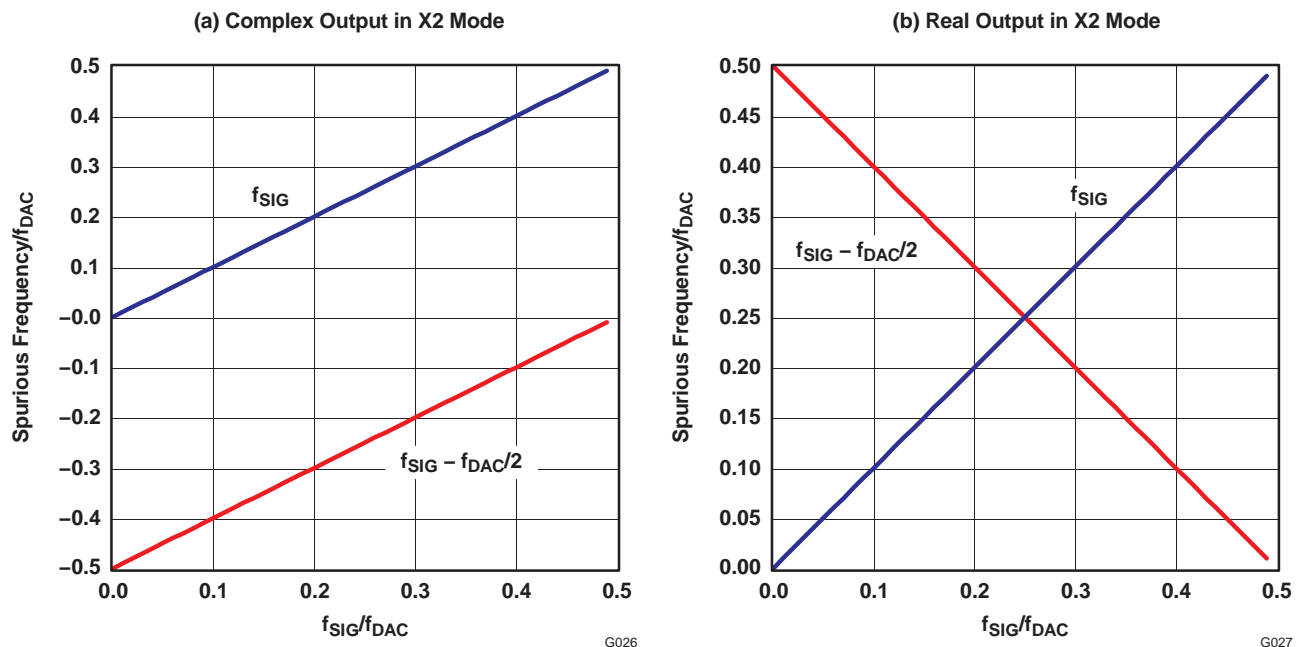
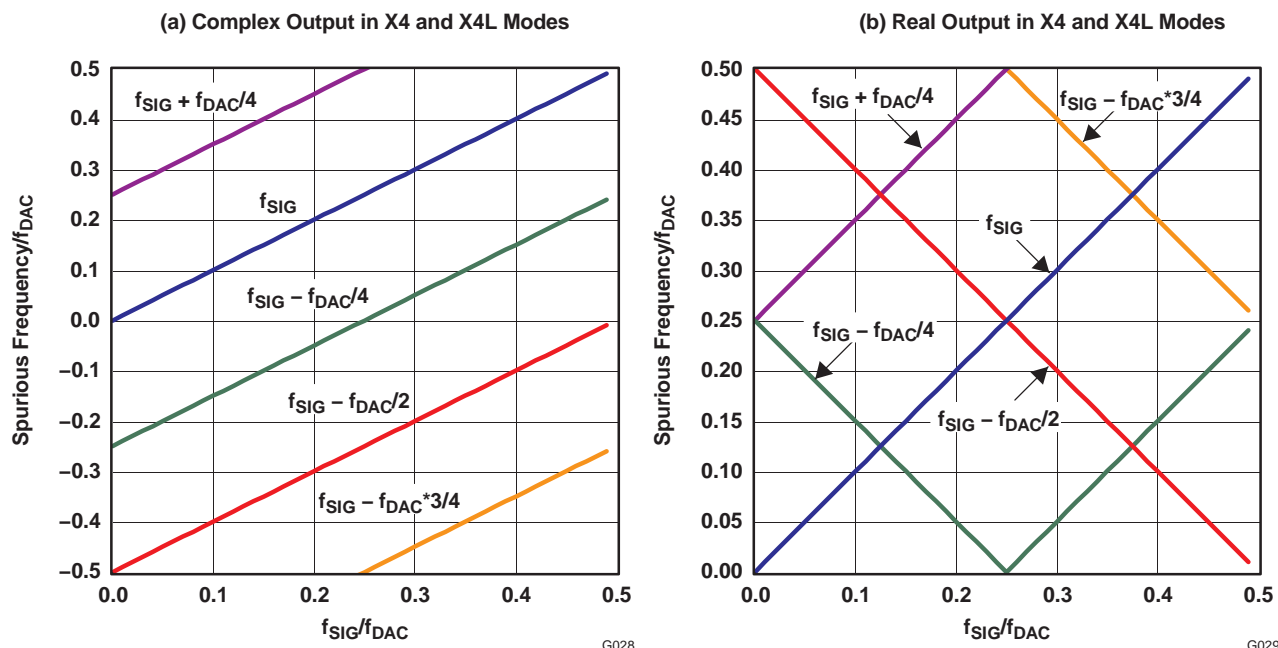

Figure 70. Frequency of Clock Mixing Spurious Images in X2 Mode
Figure 71. Frequency of Clock Mixing Spurious Images in X4 and X4L Modes
Figure 70 shows the location of spurious signals for X2 mode as a function of  $f_{\text{SIG}}/f_{\text{DAC}}$ . For complex outputs, the spurious frequencies cover a range of  $-0.5 \times f_{\text{DAC}}$  to  $0.5 \times f_{\text{DAC}}$ , with the negative complex frequency indicating that the spurious signal falls in the opposite sideband from the wanted signal at the output of the AQM. For the real output, the phase information for the spurious signal is lost, and therefore what was a negative frequency for the complex output is a positive frequency for a real output.
Figure 71 shows the location of spurious signals for X4 and X4L mode as a function of  $f_{\text{SIG}}/f_{\text{DAC}}$ . The addition of the  $f_{\text{DAC}}/4$  clock frequency for the first interpolation filter creates three new spurious signals. For a complex output, the nearest spurious signals are  $f_{\text{DAC}}/4$  offset from  $f_{\text{SIG}}$ . For a real output, the signal due to  $f_{\text{SIG}} - f_{\text{DAC}}/4$  and  $f_{\text{SIG}} - f_{\text{DAC}} \times 3/4$  falls in band as  $f_{\text{SIG}}$  approaches  $f_{\text{DAC}}/8$  and  $f_{\text{DAC}} \times 3/8$ . This creates optimum real output frequencies  $f_{\text{SIG}} = f_{\text{DAC}} \times N/16$  ( $N = 1, 3, 5, \text{ and } 7$ ), where the minimum spurious product offset from  $f_{\text{SIG}}$  is  $f_{\text{DAC}}/8$ .
1. Find the spurious signal frequencies for the appropriate mode from Figure 70, Figure 71, or Figure 72.
First, the location of the spurious signals is found for the X4 complex output in Figure 71\(a\). Three spurious signals are present in the range  $-0.5 \times f_{\text{DAC}}$  to  $0.5 \times f_{\text{DAC}}$ : two from  $f_{\text{DAC}}/4$  (35 MHz and -215 MHz) and one from  $f_{\text{DAC}}/2$  (-90 MHz). Consulting Figure 73\(c\), the raw amplitudes for  $f_{\text{DAC}}/2$  and  $f_{\text{DAC}}/4$  are 60 and 58 dBc, respectively. From Figure 75, the amplitude adjustment factor for  $f_{\text{SIG}} = 0.32 \times f_{\text{DAC}}$  is estimated at ~1 dB, and so the  $f_{\text{DAC}}/2$  and  $f_{\text{DAC}}/4$  are adjusted to 61 and 59 dBc.
First, the location of the spurious signal is found for the X2 real output in Figure 70\(b\). One spurious signal is present in the range  $0$  to  $0.5 \times f_{\text{DAC}}$  at  $0.325 \times f_{\text{DAC}}$  (see Table 17). Consulting Figure 74\(a\), the raw amplitude for  $f_{\text{DAC}}/2$  is 47 dBc. From Figure 75, the amplitude adjustment factor for  $f_{\text{SIG}} = 0.175 \times f_{\text{DAC}}$  is estimated at ~6 dB, and so the  $f_{\text{DAC}}/2$  spurious signal is adjusted to 53 dBc.